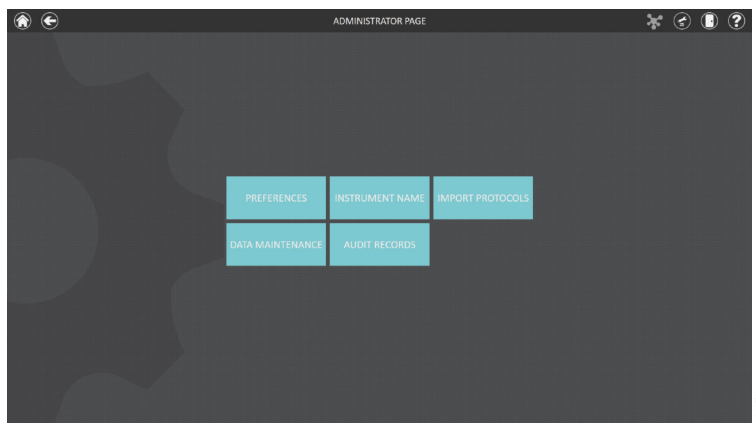

Figure 97. 'Administrator Page' screen.
2. On the 'Settings' screen, tap the **Administrator** button to open the 'Administrator Page' screen (Figure 97). This button is only visible if the current user has administrator-level access to the GloMax® Software.